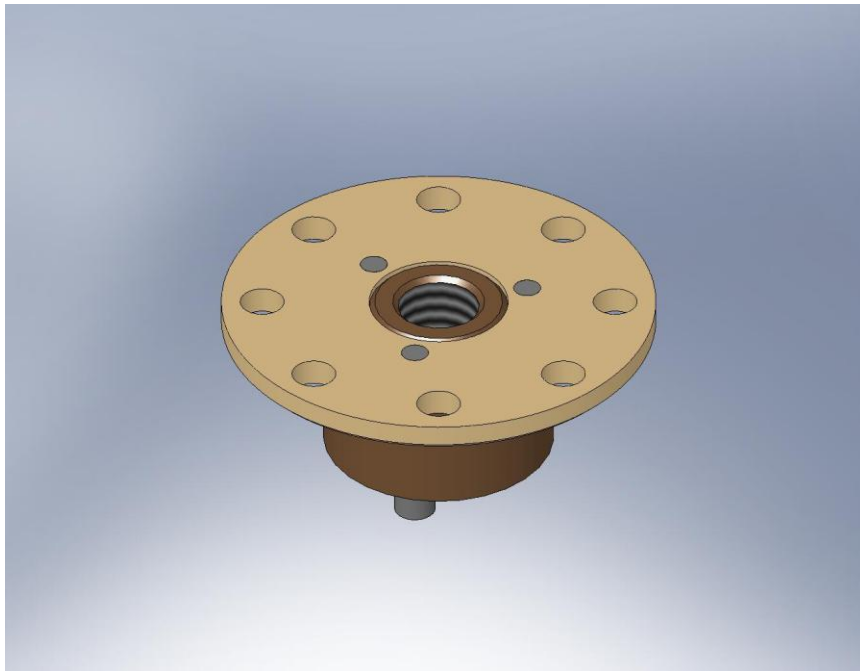

Figure 3.53. Pull-Down Nut bolted onto Pull-Down Base.
- Insert **Spring Pull-Down Nut** (D071308) through bottom of **Spring Pull-Down Base** (D071307), as shown in Figure 3.53. Snug all (3) screws, then torque to final spec. Set aside for later use.